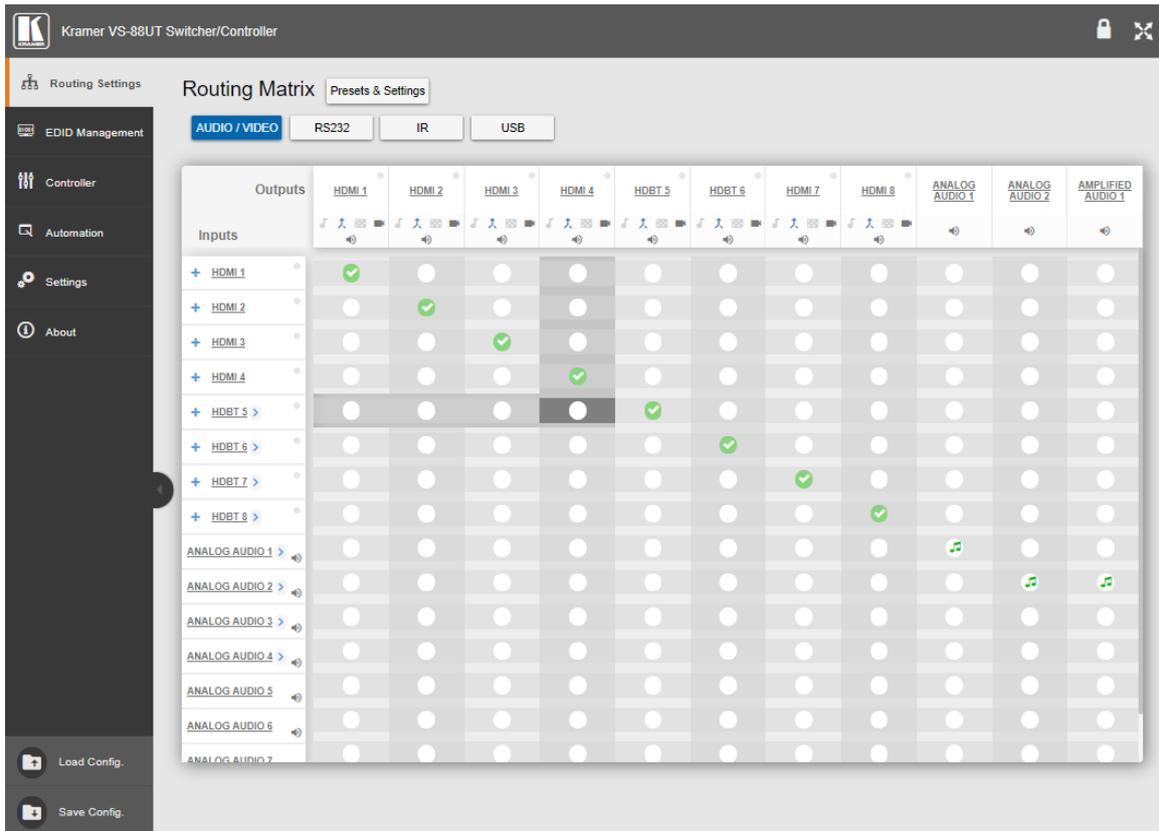

Figure 18: VS-88UT Routing Settings Page with Navigation List on Left
1. In the Navigation pane, click **Routing Settings**. The Routing Matrix page appears (see Figure 18).